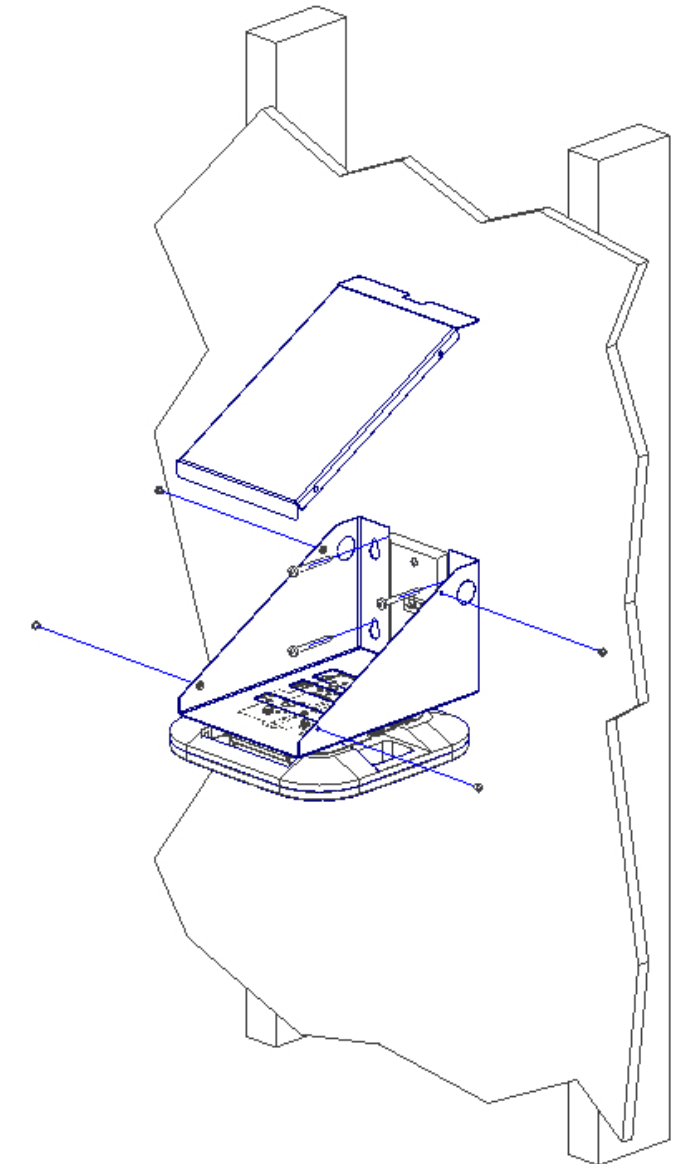

Figure 3
Step 4 – Place the mount on the wall where it is to be installed (it is recommended that you mount directly to a stud if possible) and mark the screw locations. Use a minimum of two (2) #10 x 2" or larger screws (not included) to secure the mount in place. However, if there is no stud at the mounting location, it is recommended that you use a minimum of 4 suitable anchors to secure the mount in place (Figure 3).
Step 7 – Replace the cover and tighten the (4) cover screws to the mount. Do not over tighten. Installation is now complete.